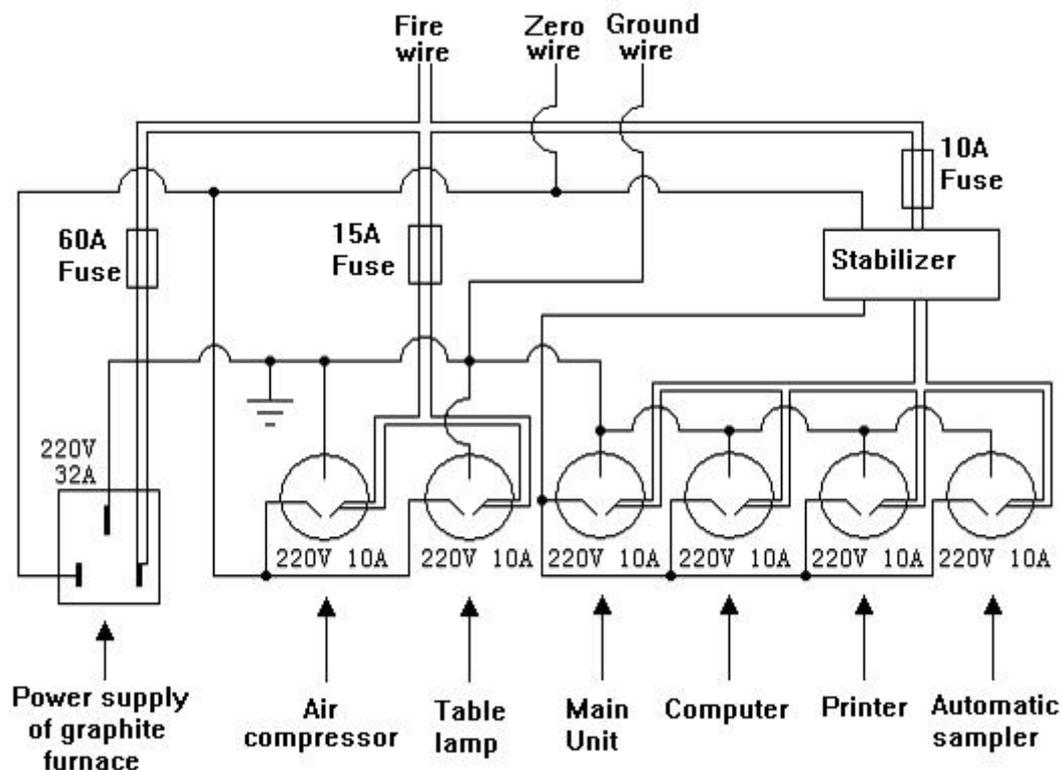

Figure 2-1 Schematic Diagram of Switchboard Electric and Socket Specification of Laboratory
- a. Recommend that main unit, computer, printer and auto-sampler should be powered by regulating power supply. Wiring mode of distribution board in the laboratory and specifications of the plug-in are shown in Fig. 2-1.